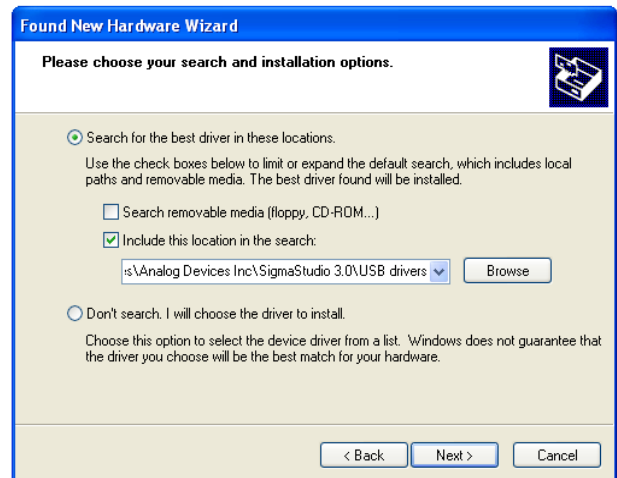

Figure 5. Found New Hardware Wizard: Search and Installation Options
2. After Step 1 is completed, select **Search for the best driver in these locations**, select **Include this location in the search**, and click **Browse** to find the USB drivers subdirectory within the SigmaStudio directory (see Figure 5).